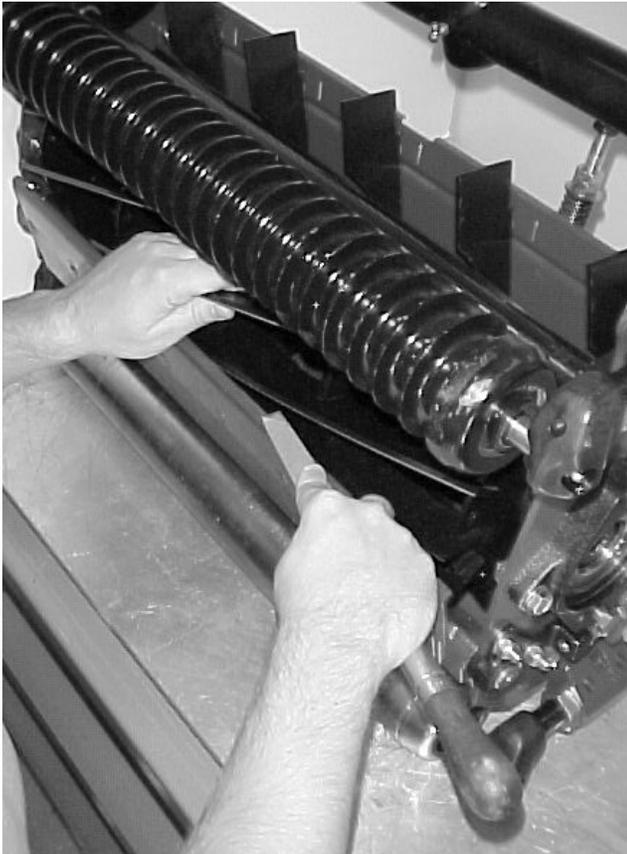

Figure 74
1. When the cutting unit is adequately sharpened, a burr will form on the front edge of the knife. Using a file, carefully remove the burr without dulling the cutting edge (Fig. 74).